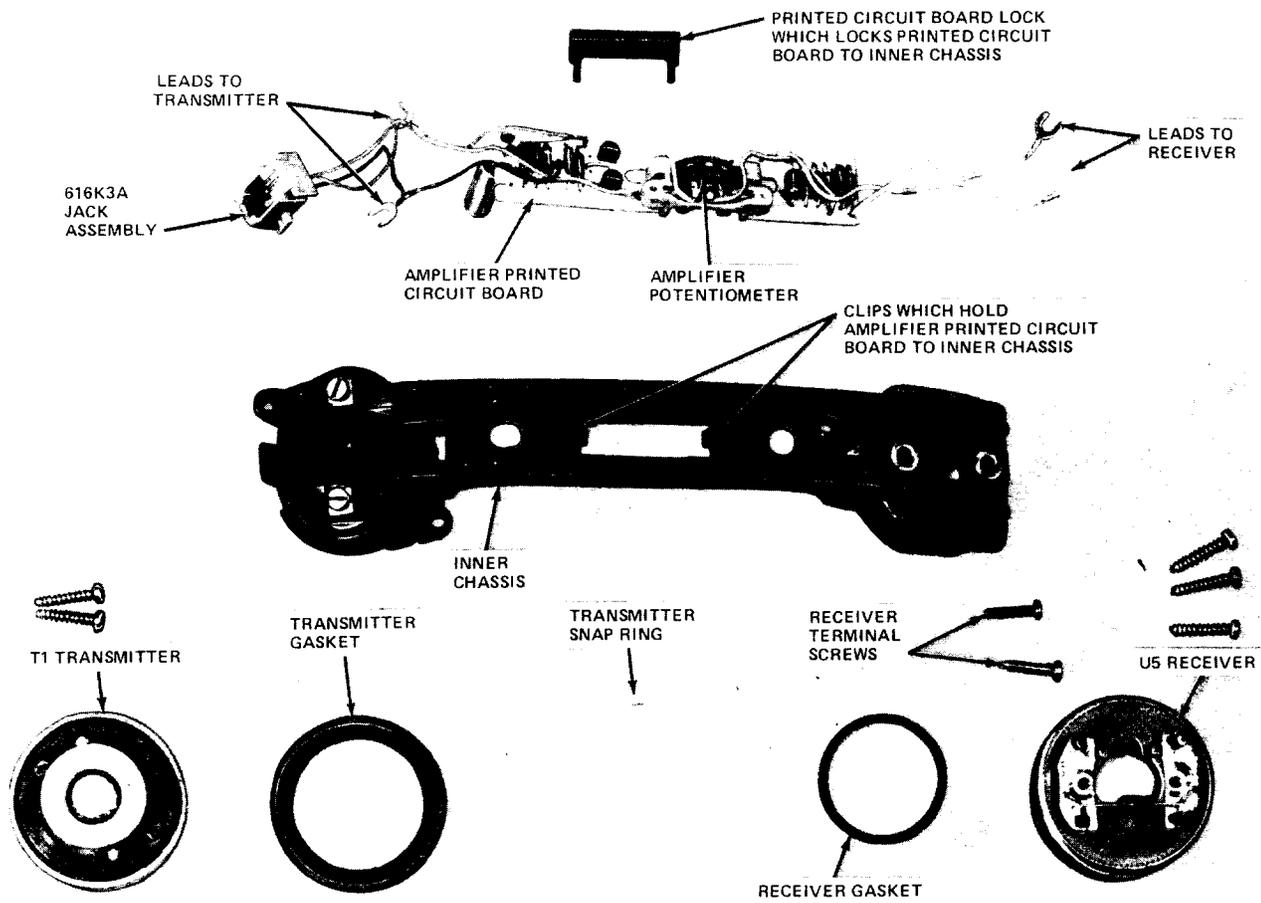

Fig. 7—K6-Type Breakdown of Impaired Hearing Handset Inner Chassis
4.02 The transmitter in the K-type handsets is held to the inner chassis by a plastic snap ring (Fig. 7).